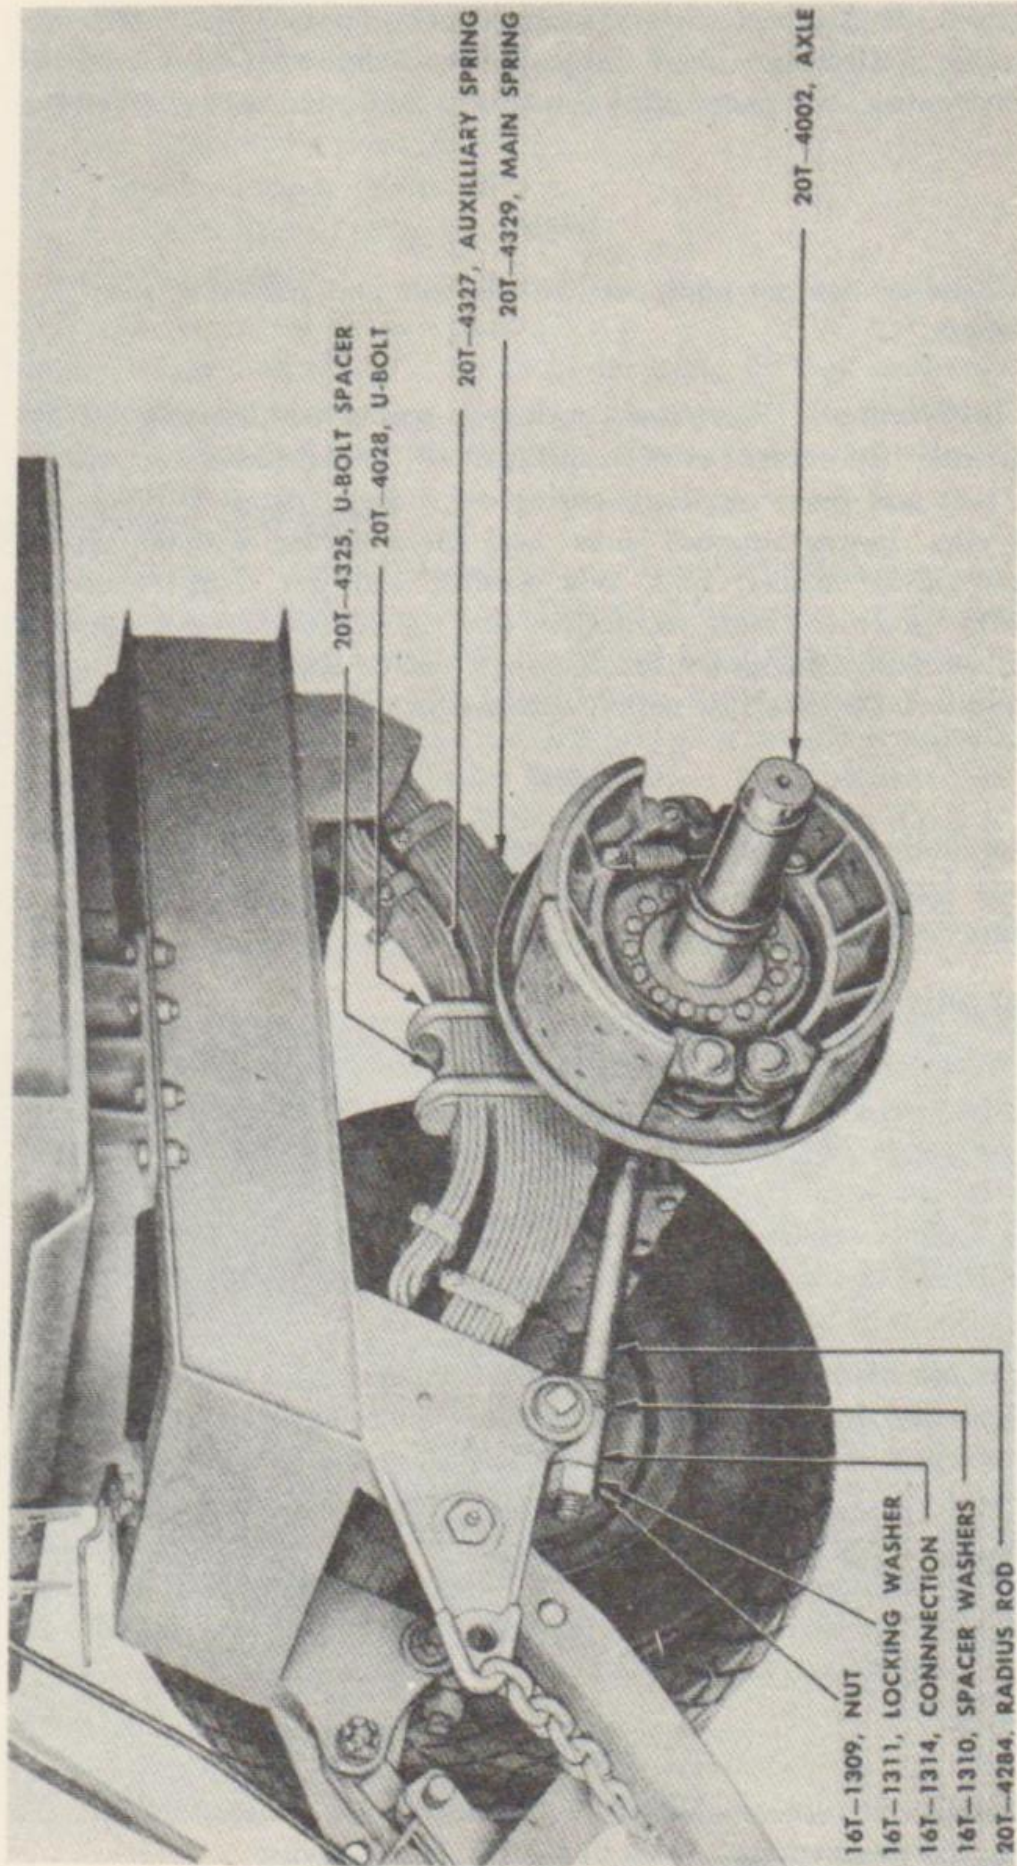

FIGURE 49. DOLLY UNDERCONSTRUCTION
b. Disassembly (fig. 49). Apply semitrailer hand brake. Place blocking under support jacks on semitrailer frame. Lower support jacks and jack semitrailer until dolly wheels clear the ground. Place hydraulic jack on solid cribbage and jack the dolly frame to prevent dolly from moving. Remove wheel and tire assembly as one unit (para. 71). Place axle nut on axle spindle to prevent threads from becoming damaged. Remove slack adjuster (para. 61 *b.* (1)). Place one jack under center of axle. Remove the sixteen bolts, nuts and lock washers holding internal brake assembly to axle flange and lift the complete assembly off the axle. Remove internal brake assembly from opposite side of axle in the same manner. Remove cotter pins from brake chamber studs, remove stud nuts, and lift the brake chambers out of mounting brackets. Do not remove hose from brake chambers. Disconnect the radius rods at the axle. Remove nuts from U-bolts and tap down on the spring tie clips. Lower jack under center of axle and lift axle out. Remove eight bolts, nuts and lock washers from brake chamber hanger, and remove brake chamber hanger and cam brackets.
(1) Place hydraulic jack under center of dolly between the two main springs. Place axle on jack with one man at each axle spindle to steady the axle in the jack.